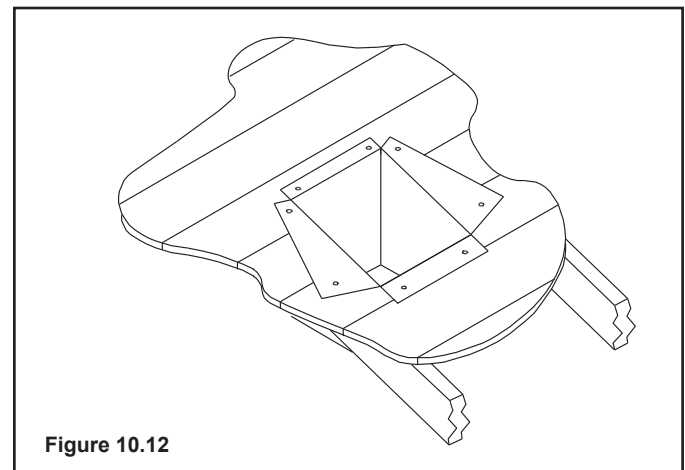

Figure 10.12
- Use tin snips to cut the support box from the top corners down to the roof line and fold the resulting flaps to the roof. See Figure 10.12.